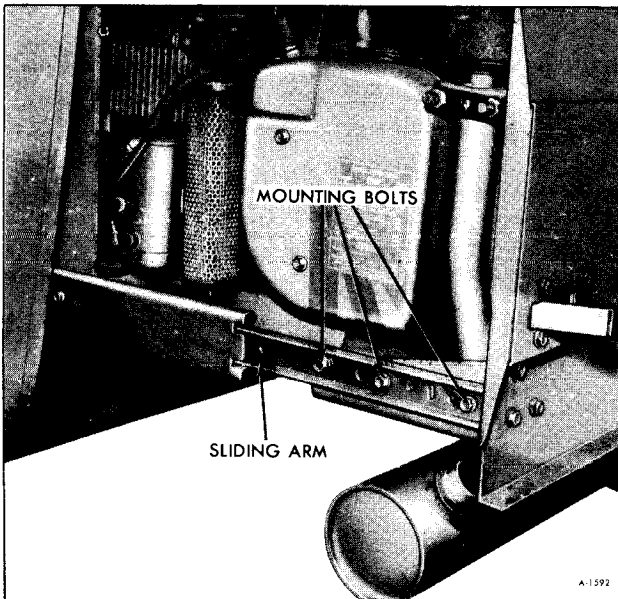

Figure 1-Disconnecting Sliding Arm
6. Remove bolts holding ends of sliding arm to generator as shown in Figure 1.
6. Install mounting bolts to slides as shown in Figure 1.